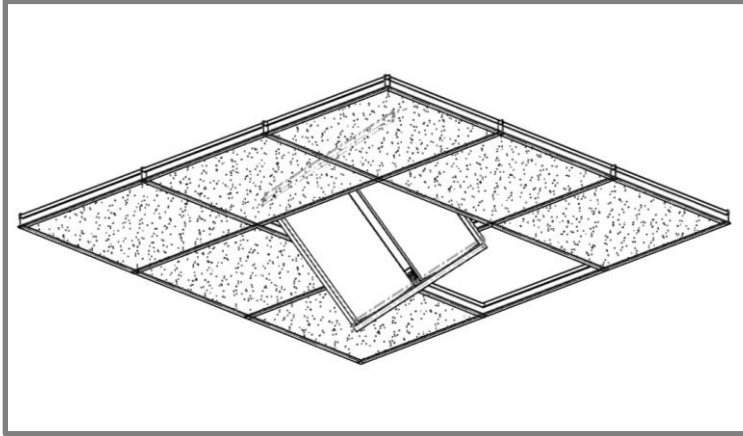

Figure 2.
- a. Pass fixture through the grid at a 45-degree angle and lay it into the grid, as shown in figure 2.